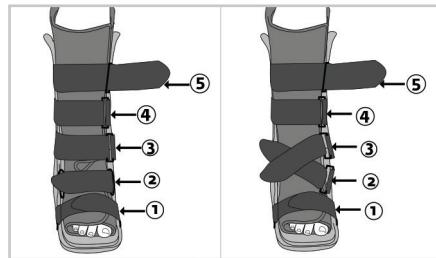

Figure 4A
4. Secure all bootstraps, starting at the toes and working up the leg (Figure 4A).